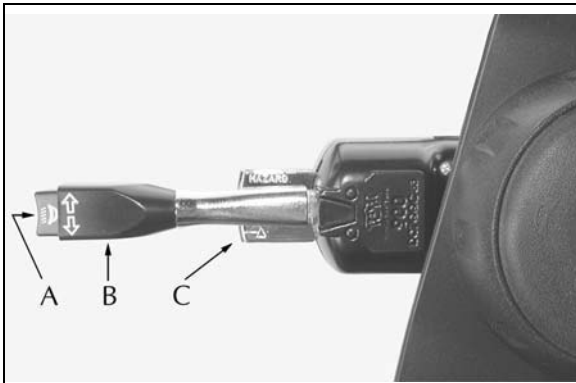

Figure 14
The column-mounted control on the Kalmar tractor has three functions. It is located on the left-hand side of the steering column (Figure 14).
1. Moving the lever (Figure 14, B) forward activates the right turn signal. Moving the lever to the rear activates the left turn signal. The turn signal is not self canceling and must be returned to the center (OFF) position manually after it is engaged. The green arrows on the dash panel light up and flash when the switch is activated.
2. The button on the end of the lever operates the high beam lights (Figure 14, A). The headlights must be on for the switch to work. When the high beam headlights are on, the high beam indicator on the dash will light up.
3. The pull out switch under the lever activates the emergency flashers (Figure 14, C). Pulling out on the switch turns the flashers on. To turn the flashers off, move the turn signal lever forward or backward.